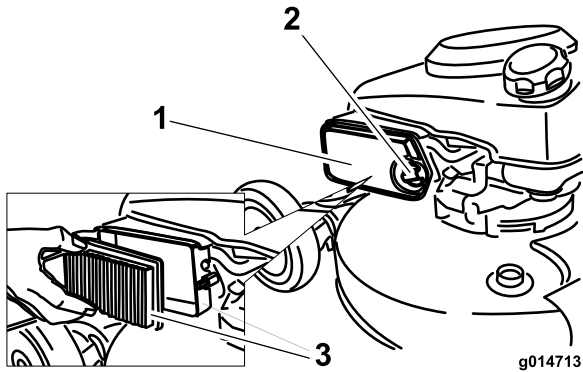

Figure 14
2. Unscrew and open the air cleaner cover (Figure 14).